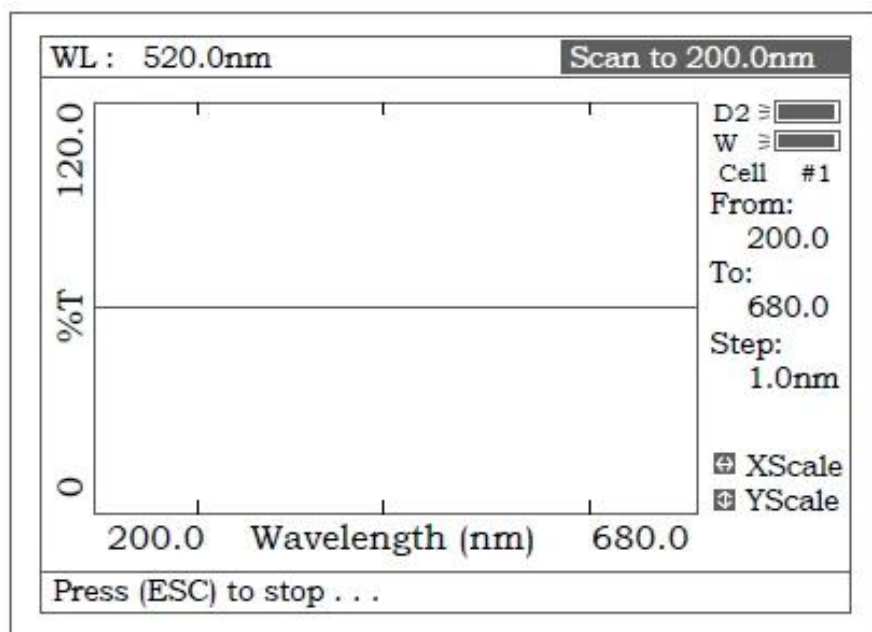

Figure 44
3. Put the blank cuvette into the Reference Light Path and Main Light Path, press **【ZERO】** to scan the base line (Fig 44). Press the key **【ESC/STOP】** to stop scanning;